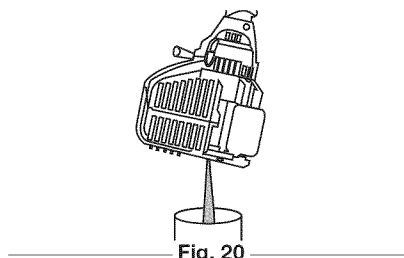

Fig. 20
2. Pour the oil out of the oil fill hole and into a container by tipping the unit to a vertical position (Fig. 20). Allow ample time for complete drainage.